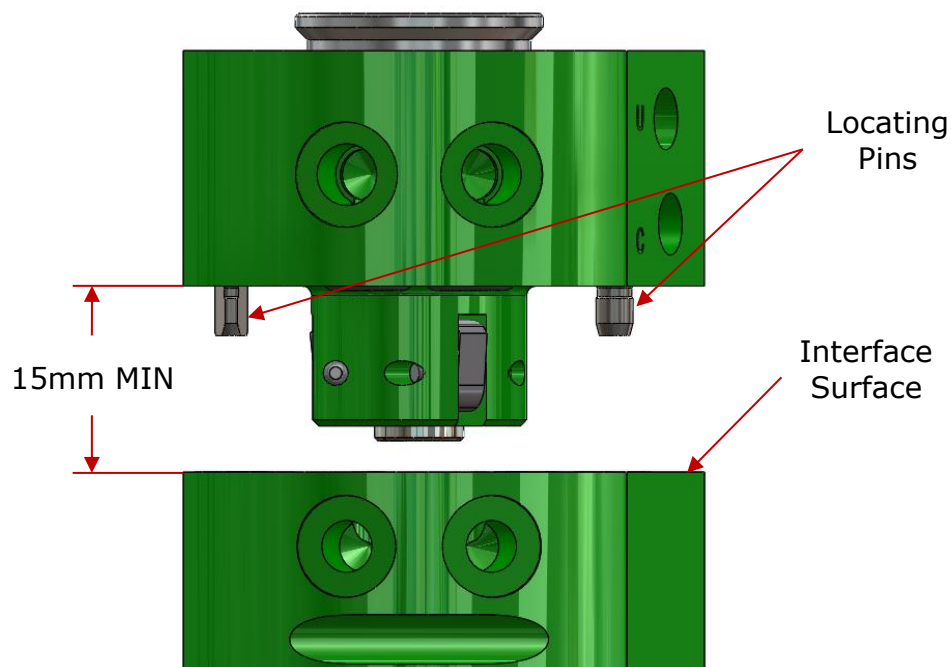

Figure 6.2-1. E31.5 Tool Changer – Docking Orientation
1. Orient the Robot Side and Tool Side so that the centerline axes are aligned and the interface surfaces are parallel. Maintain approximately 15mm minimum separation between the Robot Side and Tool Side interface surfaces (Figure 6.2-1).